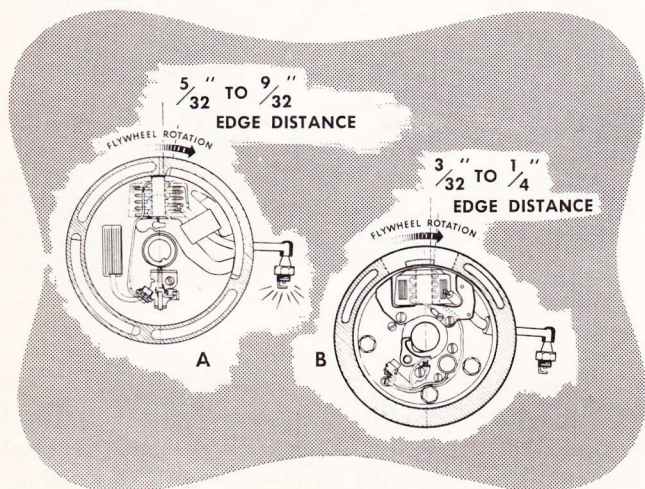

Fig. 35
Fig. 35 (A and B) illustrates magneto edge-gap. Normally, this distance need not be checked as it is pre-set and will not give problems unless a worn or damaged part is in the magneto assembly. Of course, the magneto edge-gap is affected by point setting, and as the points are set too wide, the edge-gap (illustrated in Fig. 35) becomes much less than it should be for the magneto to provide sufficient output to fire under compression. As points wear on the shuttle or rocker arm, the points become too close and edge-gap becomes wider.
Fig. 35 (A and B) shows the marking for edge-gap of the two variations in magnetos commonly used. In the case of Fig. 35(A) the trailing edge of the one lamination is marked to the outside of the flywheel for reference, and in the case of Fig. 35(B) the trailing edge of what appears to be the first lamination is marked out. Check the difference between reference lines on these two figures for the edge-gap. The relationship between the trailing edge of the forward lamination on either flywheel is in reference to the closest side of the core through the coil, and it should be marked from here or the reference mark put on the bearing plate or block at this point.
If the rotating lamination has cut through the tape, there is too little air-gap and the high spots can be dressed down with a file if the stationary lamination is non-magnetic. If this is done, care should be used because there is a requirement that each of the three legs of the lamination be equal distance to the rotating lamination. In the case of the older or previous style magneto (Fig. 35-A), it is recommended that the lamination be oversized by use of a $\frac{7}{32}$ drill and the lamination moved back toward the breaker housing. Prior to the drilling operation, the lamination should be placed and held in a vise for drilling, otherwise the lamination will spread.
In case there is too much air-gap, the lamination holes (illustrated in Fig. 35-A) could be oversized, as previously commented upon, and moved towards the flywheel. This would be the only practical method of closing up the air-gap. As it moved outward it would be necessary to check to see that the air-gap clearance was not dropped too low. On those engines that have the magnetic lamination screwed to the flywheel and (upon checking it) it is found that they have too much air-gap, it is possible to put a shim behind this flywheel by cutting a shim the same length and the same width and slotting in from each end. Loosen the screws, place shim in back of lamination and tighten screws down and recheck. The shim thickness would be based upon how much the clearance or air-gap is.